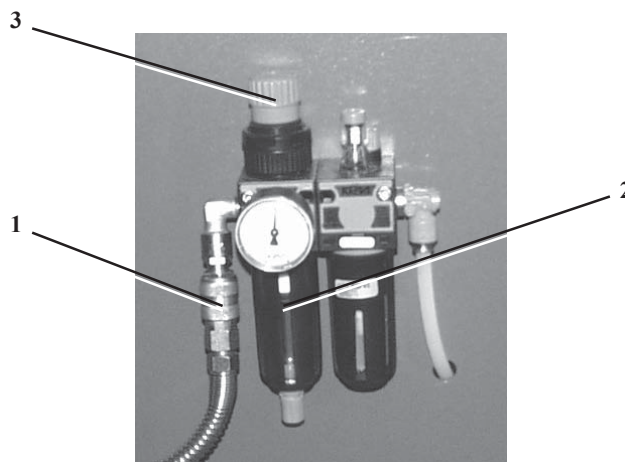

Fig. 4.2
- Connect the machine to the the air supply connecting the air pipe (\varnothing inside = 7,5 mm) to the relevant connection (1, fig. 4.2) on the pressure regulator (2)
- Regulate the inlet pressure with the regulator (3).